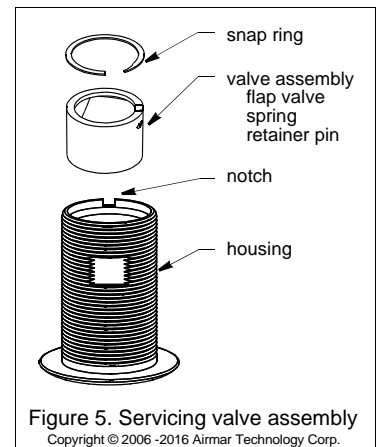

Figure 5. Servicing valve assembly
3. Remove the snap ring from the valve assembly using a screwdriver to pry the end of the ring free (Figure 5).
6. Clean, repair, or replace the valve assembly so the flap valve moves freely and seats against the valve housing (Figure 5).